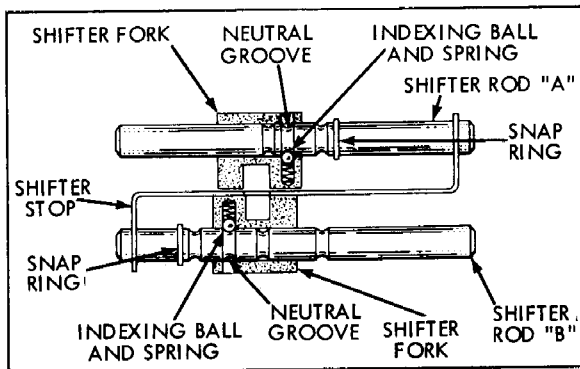
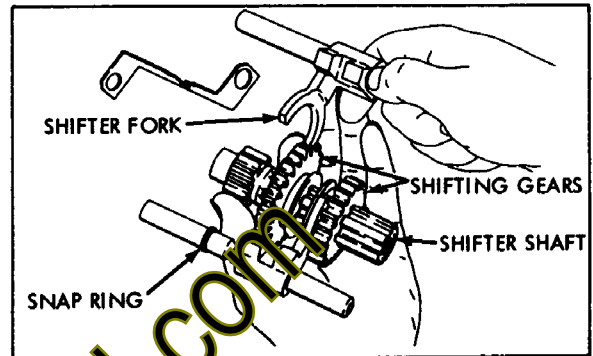

Figure 3-3
Figure 3-7
- a. Reassemble the shifting assembly by following the illustrations beginning with Fig. 3-3 through 3-11. Pay particular attention to Fig. 3-3 during the reassembly of the shifter forks and shifter rods. Lay the parts on the bench in the same manner as illustrated in Figure 3-3 on a clean paper or shop cloth. Pay particular attention to the annular grooves in the shifter rods and the snap ring.
3. Move the shifting fork to the Neutral position. The neutral groove is the center groove. This neutral groove can be seen through the hole in the shifter fork. See Figure 3-3, the arrow from the words "Neutral Groove" is passing through the hole for viewing.
- c. When assembling the shifter fork and rod to the flanged gears on the shifter shaft, Figure 3-7, that shifter fork which is on shifter rod "A" always engages in flange in the larger gear. To determine which is shifter rod "A" compare the parts to illustration. Figure 3-3. Hold the shifter shaft in the hand as illustrated (Figure 3-7) during assembly.